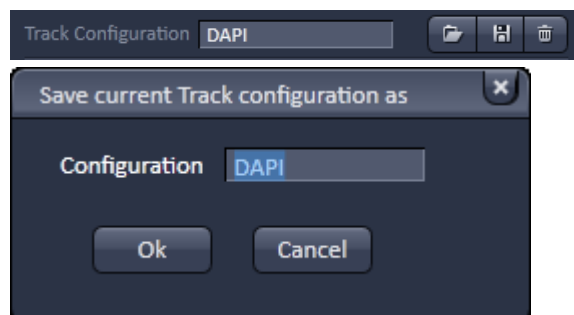

Fig. 18 Track configurations functions
- For storing a new track configuration open the **Channels** tool in the **Acquisition Parameter** tool group, click  and enter a desired name in the first line of the list box (Fig. 18), then click **Ok** to store the configuration.